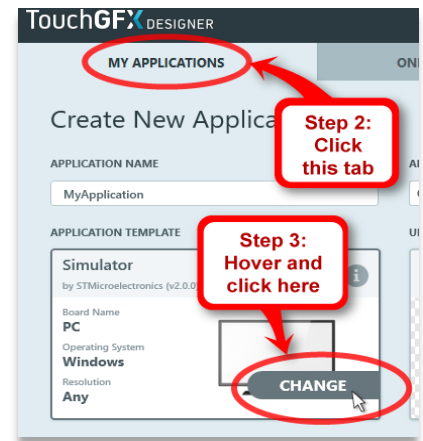

Figure 1
2. Click on the *MY APPLICATIONS* tab of the pop-up window. See Figure 1.
3. Hover over the window below *APPLICATION TEMPLATE*. Click *CHANGE* when that text appears, as shown in Figure 1.